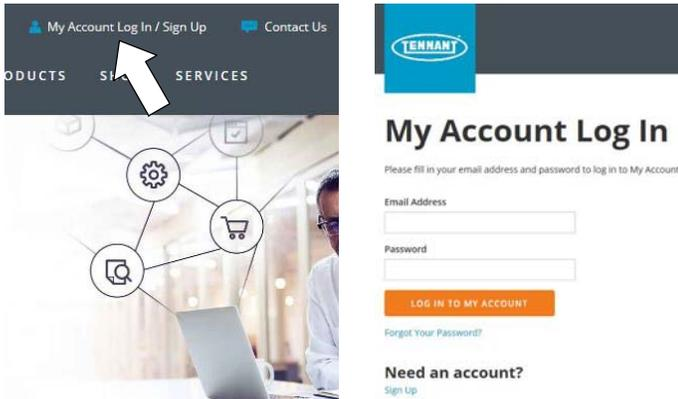

Fig. 33
1. Press “My Account Log In/Sign Up” to open or create an account (Figure 33).